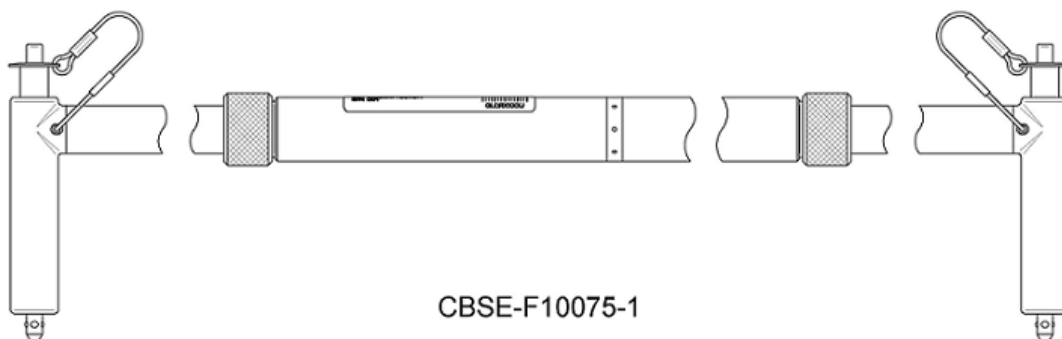

Figure 1. Glacier IVA Handle.
2. Connect Glacier IVA Handle diagonally to front face of Glacier at locations marked IVA Receptacle (two or four). Refer to Figures 1 and 2.